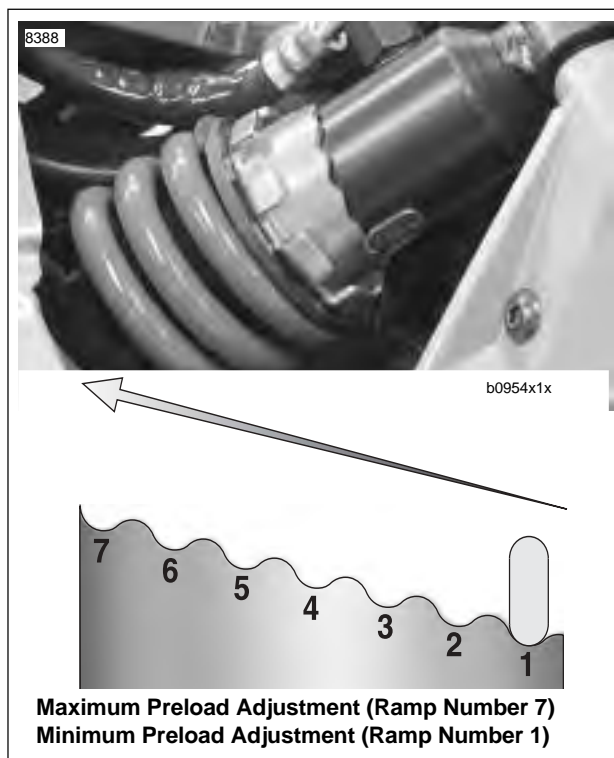

Figure 1-31. Rear Shock Preload Adjuster
2. See Figure 1-31. Change the spring preload by turning the preload adjuster at the upper part of the shock with the SHOCK SPANNER WRENCH (HD-94700-52C) or the wrench included in the tool kit.